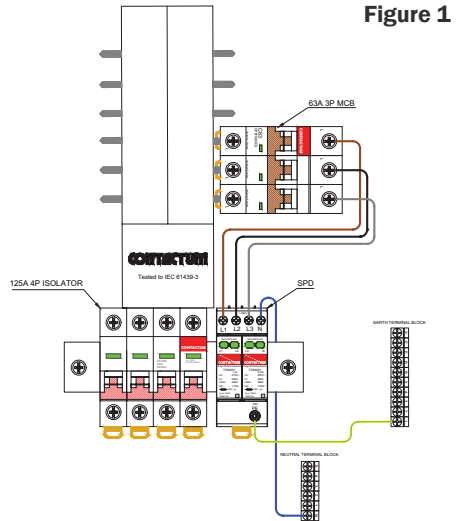

Figure 1
1. Mount the surge arrester (SPD) as shown in figure 1.
2. Mount the 3 pole MCB (63A) Type C (CPB1063C3) on the lower right hand side of the busbar assembly of the DDB Board. See figure 1.
- d. Connect the blue (Neutral) cable between the (N) terminal on the SPD and the lowest terminal of the right neutral terminal bar.
- e. Connect the earth cable between the earth terminal (⊕) or (PE) on the SPD and the lowest earth terminal (B) on the right earth terminal bar.